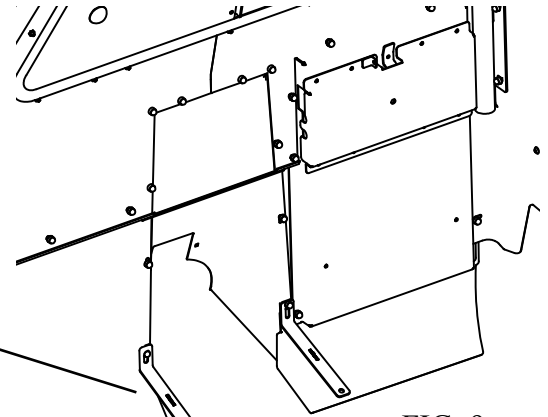

FIG. 9
- G. Place the Anti-Rattle Brackets (3SP4713_001) as shown in Figure 9, over the 1/4-20 x 5/8" (3X36) carriage bolt, and use the whiz nuts (3X16Z) to secure them. The Other end attaches to the OEM seat brackets of the driver and passenger seats using the OEM bolts and nuts.